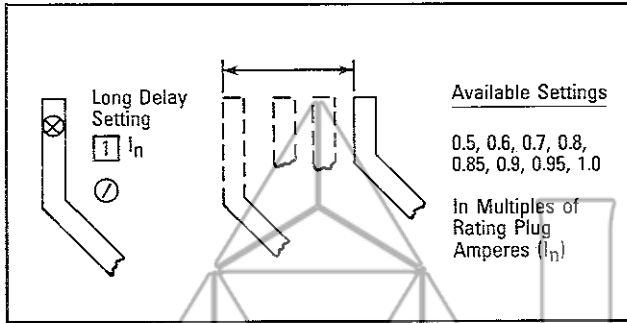

Fig. 4.1 Long Delay Ampere Pickup Settings
The available settings, along with the illustrated effect of changing the settings, are given in Figs. 4.1 through 4.7.
Eight (8) available settings, as illustrated in Fig. 4.1, range from 0.5 to 1.0 (I_n). Each setting is expressed as a multiple of the maximum ampere rating (I_n) of the installed rating plug.